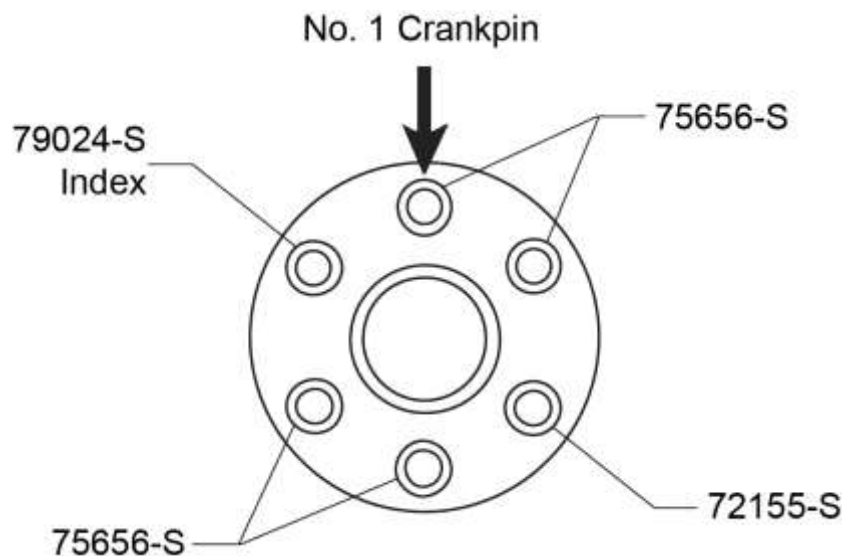

Figure 1
- A. Refer to Figure 1 or the latest revision of the *TEO-540-C1A Illustrated Parts Catalog* to identify the correct bushing part numbers for your engine and the location of each bushing.
- B. Use the Propeller Flange Bushing Remove/Install Tool ST-115 to install the bushings of the correct part number on the propeller flange in the location designated for your engine model specified in Figure 1.